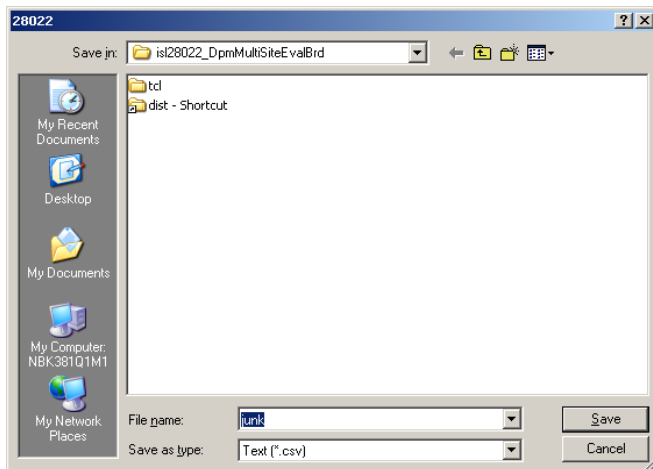

FIGURE 7. FILE NAME AND DIRECTORY SAVE DIALOG BOX
- The DPM software allows the user to store a set number of points of data. Go to the menu bar of the ISL28022 DPM Demo Software window and choose File \rightarrow Save Data. Choosing the Save Data option will open a dialog box asking for the filename and directory of the save path. Figure 7 is an illustration of the dialog box.